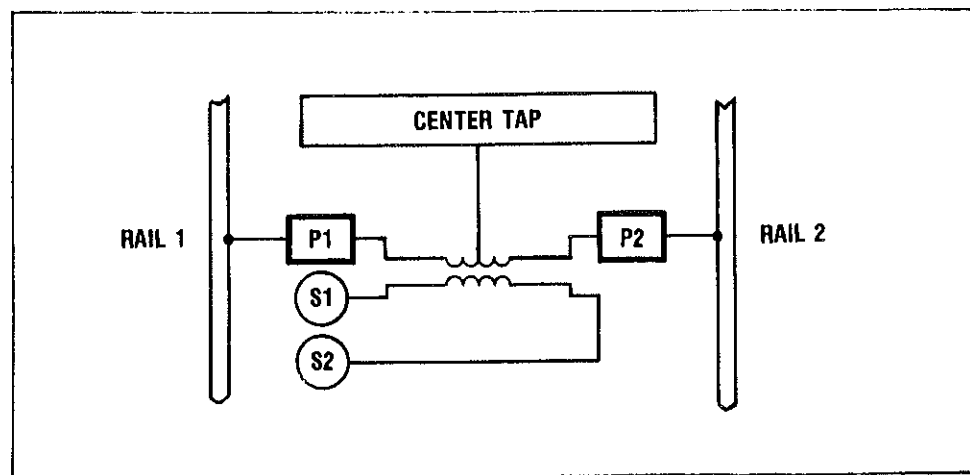

Figure 3-1. AF-Mini Impedance Bond - Basic Circuit
The Tuned Minibond design and application is an extension of the basic concept described below. The basic circuit configuration for an audio frequency (AF) minibond is represented by a primary winding with a center tap and a secondary winding inductively coupled to it (see Figure 3-1). The secondary winding may be tuned to increase the impedance of the bond at desired frequencies.